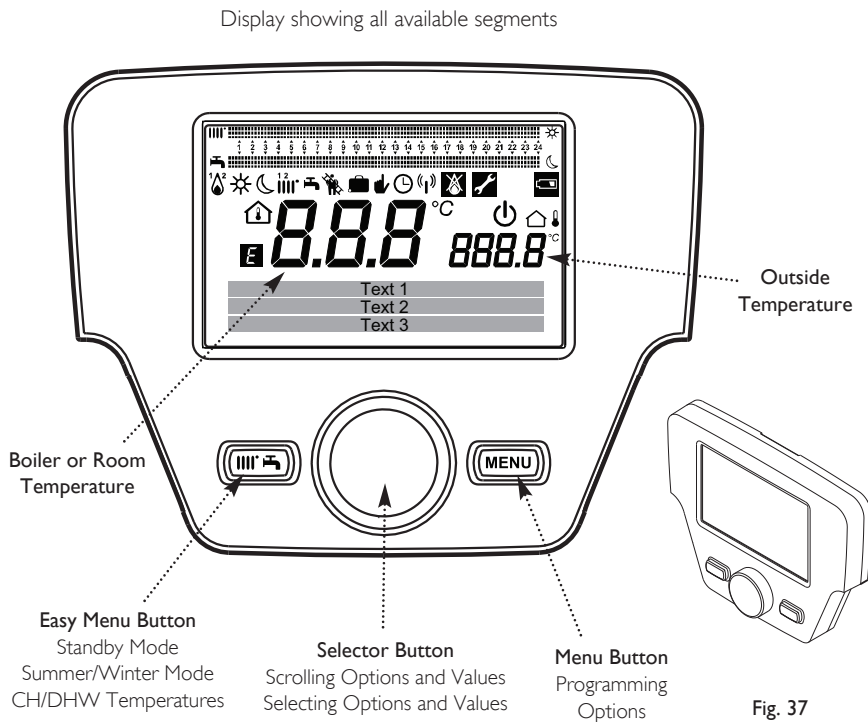

Fig. 37
11.3 i-THINK Controller (Fig. 37)